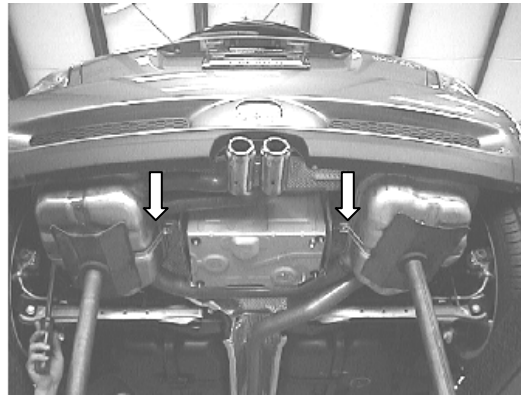

Figure 4
6. Unbolt the two innermost bolts on the muffler straps shown in figure 4 and pull straps open.